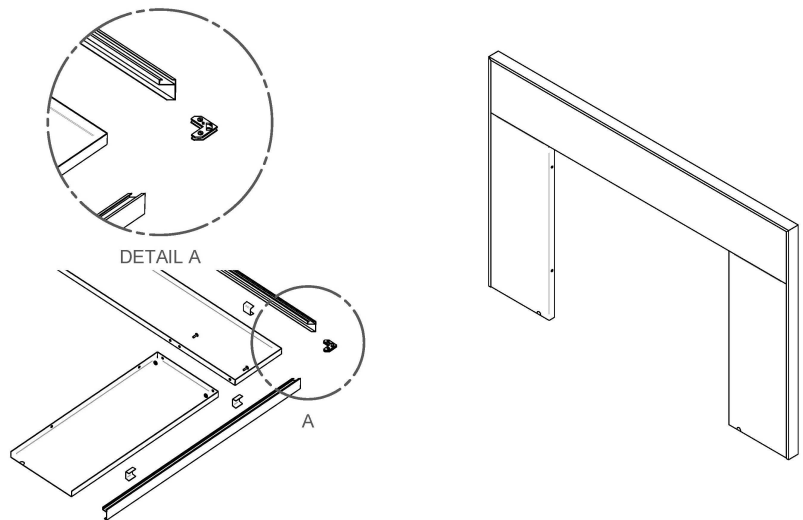

Figure 3.6
3. Line up the holes of the side and top panels and secure with the six (6) screws, washers and nuts. (see Figure 3.6)
5. Secure trim to faceplate using eight (8) "U" shaped clips. (see Figure 3.6)